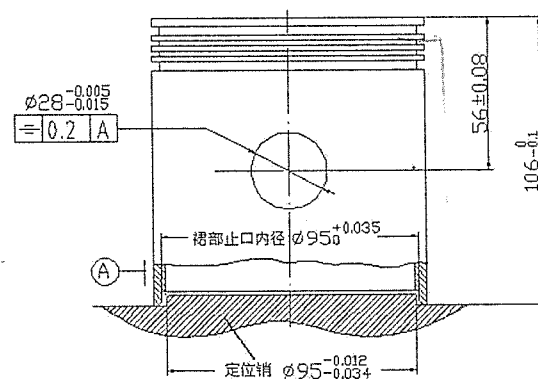

Figure 2
(3) 存在正定位现象, 自由度又被轴承销和支承板完全定位。
7. Figure 2 is a machining and positioning diagram of piston and pin hole. The piston has a full height of $106_{-0.1}^0$ mm, pin hole position of 56 ± 0.08 mm and symmetry requirement of 0.2mm. Please analyze (16 points):